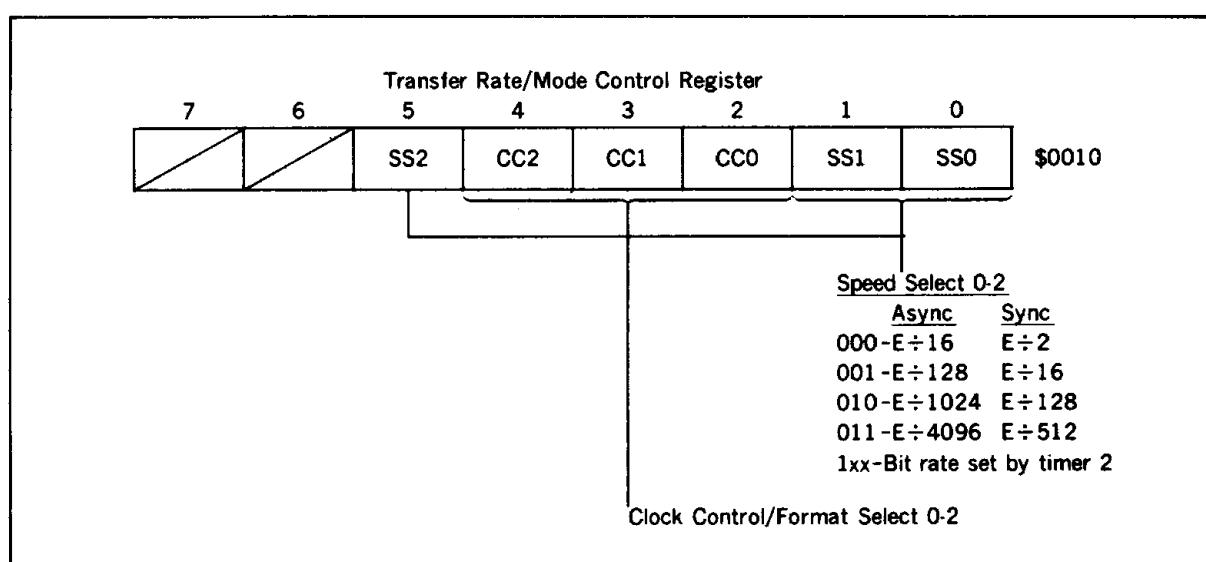

Figure 36. Transfer Rate/Mode Control Register
**Transfer Rate/Mode Control Register** : The 6-bit transfer rate/mode control register (RMCR : \$0010 ; figure 36) controls the following SCI functions.